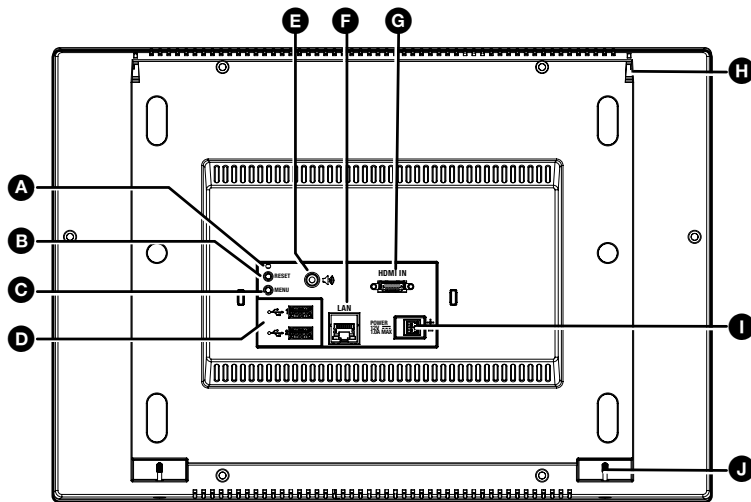

Figure 4. FPC 6000 Rear Panel
- A Power over Ethernet power injector is provided with the FPC 6000. Connect the power injector to the FPC 6000 (see **figure 4** on page 4).
- Connect the power injector to the LAN and power it on (see **figure 4**).
6. Insert the two provided Phillips pan head #6-32 x 3/4-inch screws with washers in the mounting screw slot (see figure 4, ①, on the next page). Leave a gap for the flange at the bottom of the mounting plate to fit into.
- **PoE input** — If you use the provided PoE power injector, connect the FPC 6000 to the power injector output and connect the power injector input to the LAN (see figure 4).